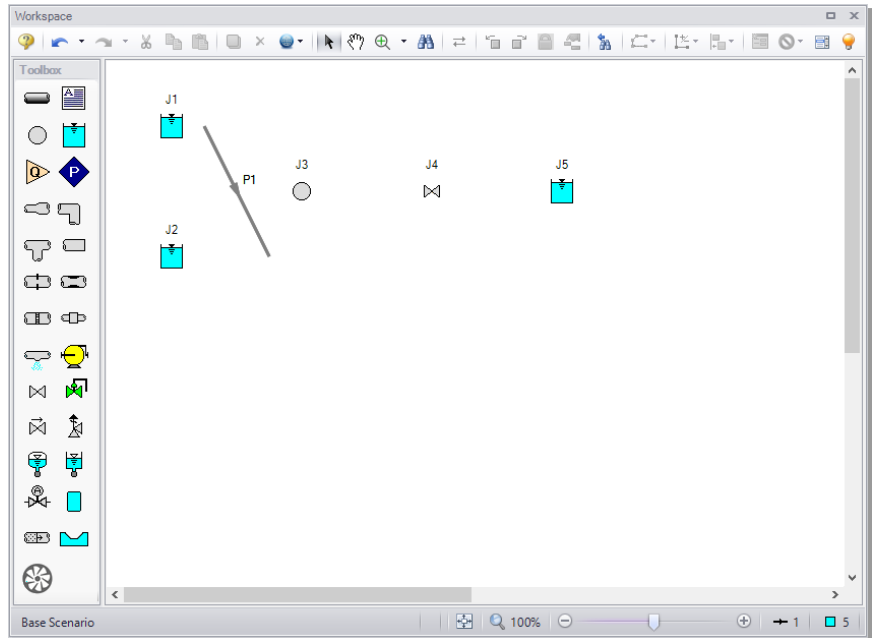

Figure 2.6 Valve closure model with the first pipe drawn
- **To create a pipe**, click the Pipe Drawing Tool icon on the Toolbox. The pointer will change to a crosshair when you move it over the Workspace. Left-click and drag to draw a pipe near the junctions, similar to that shown in Figure 2.6.